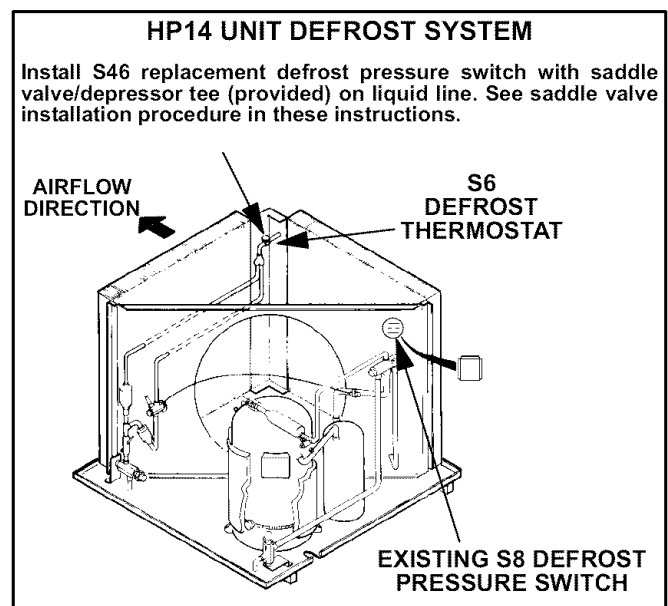

FIGURE 1
- 3- Remove existing S9 defrost (air-type) pressure switch and install replacement S46 (refrigerant-type) pressure switch as shown in figure 1. Replace switch cover.
- 4- Install S6 defrost thermostat on the liquid line as shown in figure 1.